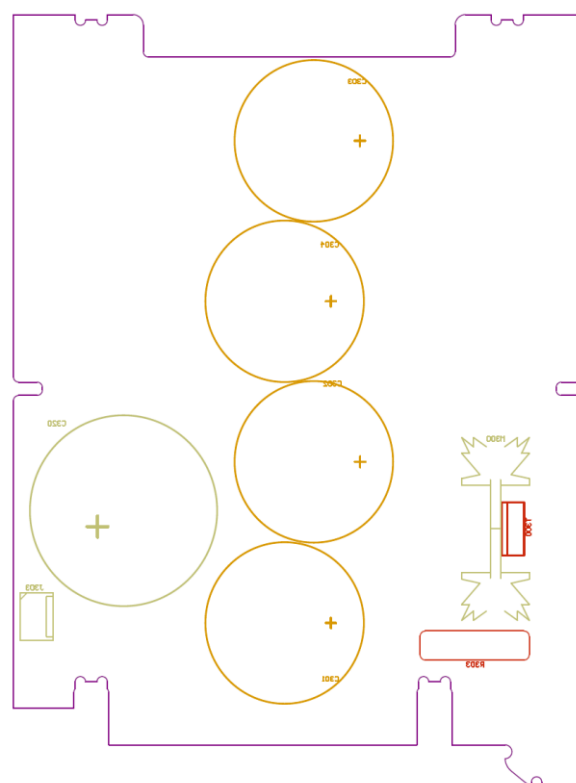

Figure 9: PCB Power board (back side)
**Note:** In the **FX 600 Master** version the value of C330 is **1700μF/350V** (Figure 9).